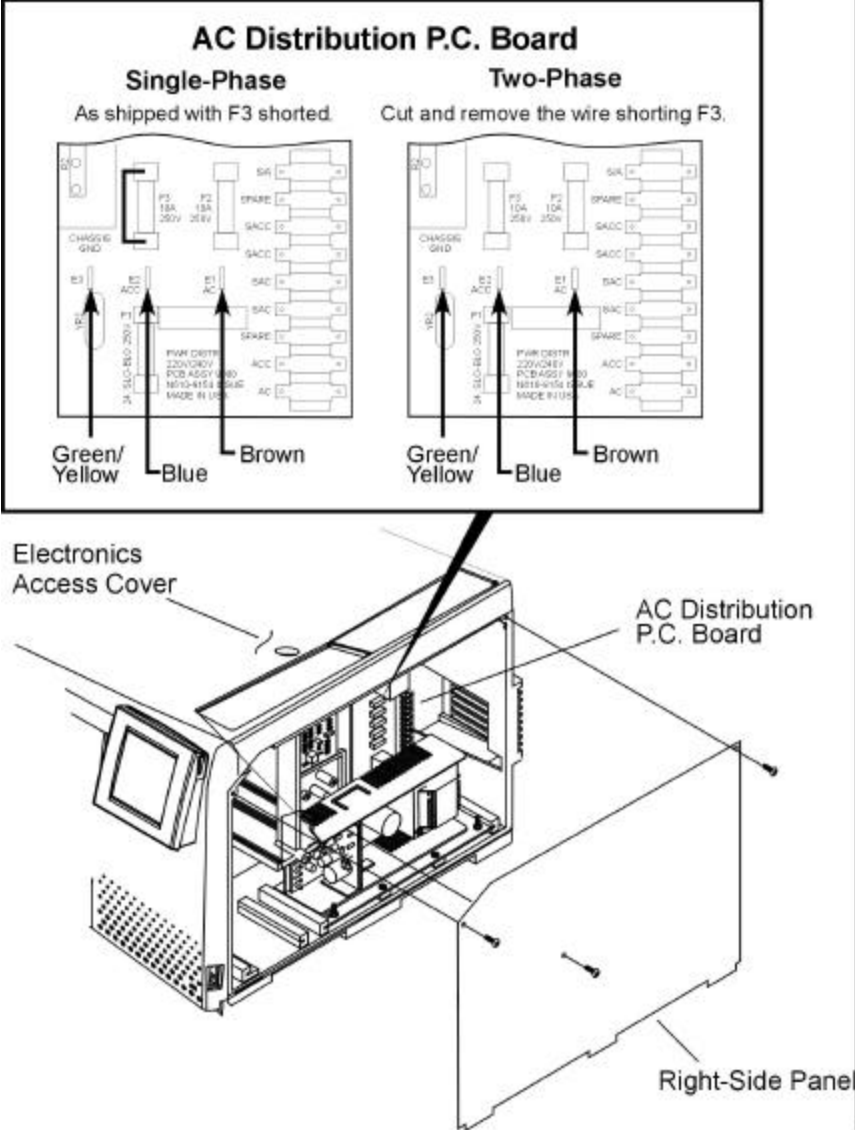

Figure 2- 23 AC Distribution P.C. board connections for countries that use single-phase or two-phase power.
3. Verify that the brown wire from the line filter is connected to E1, that the blue wire from the line filter is connected to E2, and that the green/yellow wire is connected to E3 on the AC Distribution P.C. board (see Figure 2- 23).